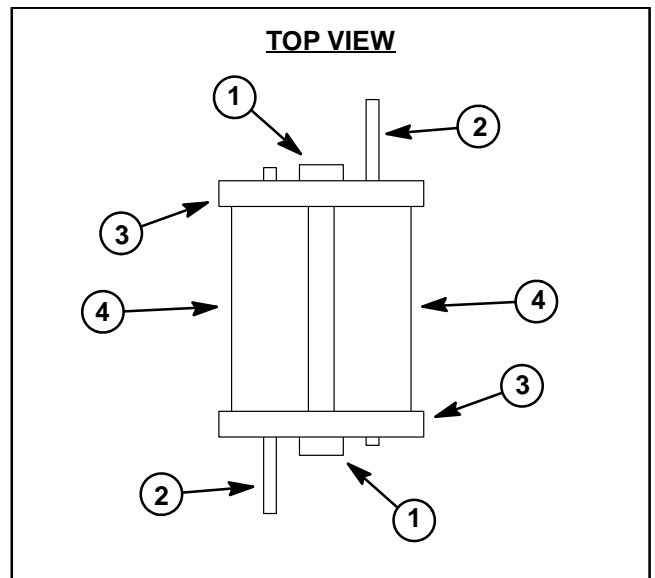

Figure 27
NOTE: Extended portion of each compression spring tool must be on opposite ends so cap screws (item 7) that secure spring cradles to control arm towers can be removed (Fig. 27).
5. Install a compression spring tool rod (see Special Tools) through holes in each spring cradle (item 1), then install nuts and washers on both ends of each rod. Tighten one nut on each rod to secure compression springs (item 2).
6. Remove flange nut (item 3) and cap screw (item 4) from lower end of each stabilizer link (item 5).
7. Remove lock nut (item 6) and cap screw (item 7) securing each spring cradle to control arm towers (item 8), then remove springs and cradles along with the stabilizer links.